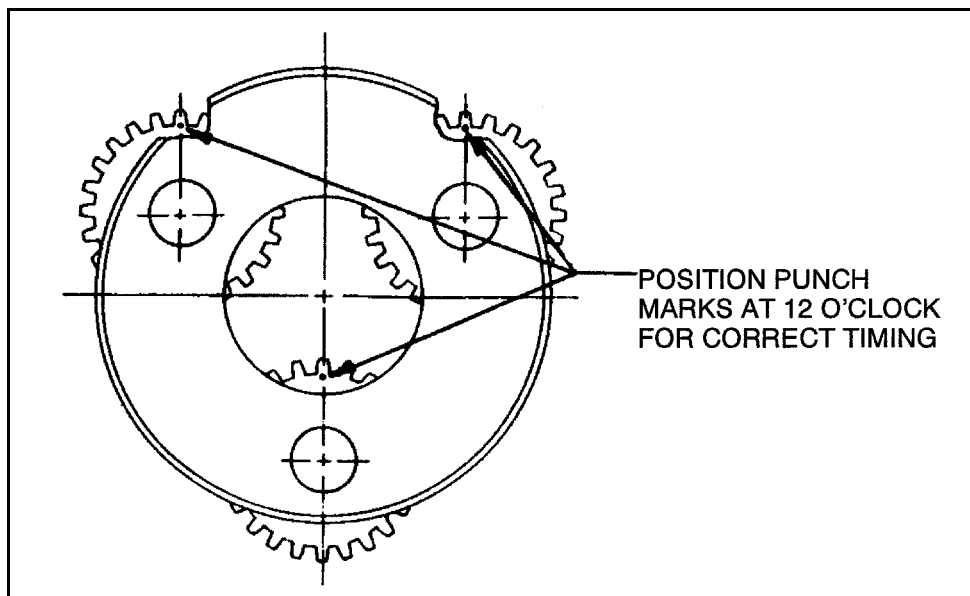

Figure 2-22. Torque Hub Carrier Timing
- a. Place carrier assembly on a flat surface, positioning two top gears at ten o'clock and two o'clock, and one bottom gear at six o'clock as shown in Figure 2-22., Torque Hub Carrier Timing.
- d. Position spacer (14) at the approximate midpoint of the gear diameter.
- e. On each side of spacer (14), position needle rollers (13) in inner diameter of gear.
- f. Position assembled cluster gear (11) into carrier (10) between the two thrust washers (12). Ensure that larger gear is on the roll pin side of carrier.
- g. Position planet shaft (15) into carrier hole, with shaft roll pin hole on same side as carrier roll pin hole.
- h. Continue inserting shaft through thrust washers (12) and cluster gear 11. Ensure that needle rollers (13) are not displaced.
- i. Align roll pin holes in both shaft (15) and carrier (10) with chamfered portion of shaft hole uppermost.
- j. Position new roll pin (16) in hole in carrier (10) and drive pin into hole until end of pin is flush with carrier surface.
3. Position internal gear (19) on inner end of output shaft (30).
5. Place ring gear (7) over cluster gears (11), with raised shoulder of ring gear facing down.
6. While holding ring gear (7) in position, invert carrier assembly (10) so that ring gear and larger diameter of cluster gears (11) are facing down.
7. Apply a light coating of petroleum jelly or multi-purpose grease to inner thrust washer (8) and thrust bearing (9).
8. Position thrust washer (8), thrust bearing (9), and thrust washer (8) into applicable groove of carrier assembly (10).
9. Apply a light coating of petroleum jelly or multi-purpose grease to new inner o-ring (6).
10. Position o-ring (6) in groove in hub (24).
11. While holding ring gear (7) and carrier assembly (10), insert smaller diameter of cluster gears (11) into internal gear (19).
12. Rotate ring gear (7) until hole marked "X" is located over hub shaft assembly (24).
13. Insert input gear (18) into carrier assembly (10) so that input gear and larger diameter of cluster gears (11) are in mesh. Check that carrier assembly (10) rotates freely.